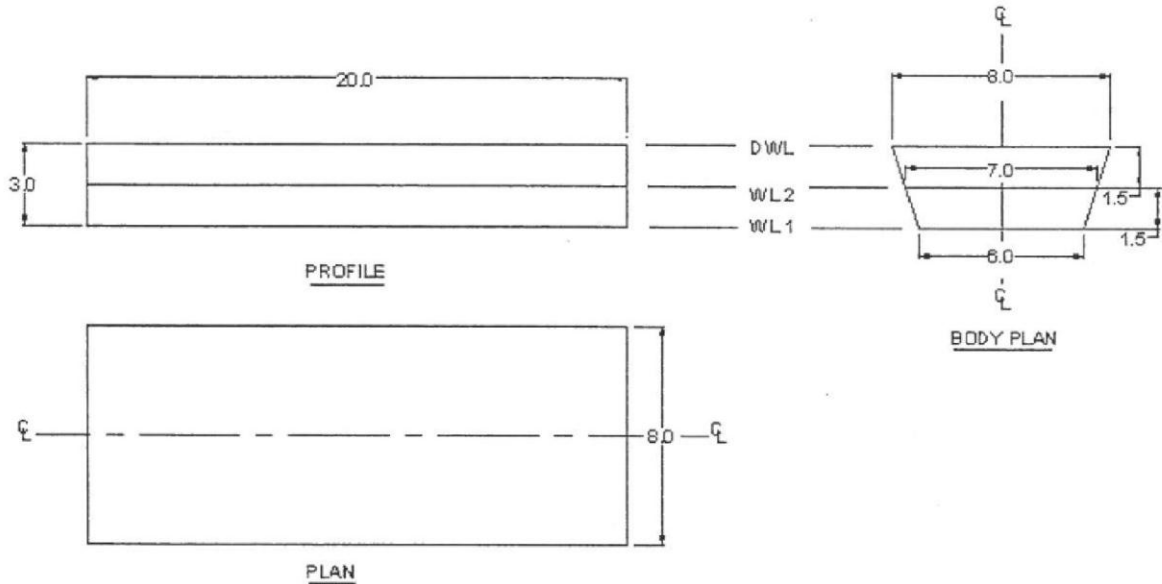

Figure 2 Lines Plan of 20m Barge
- (b) A barge with same transverse sections throughout its length has 20 meters in length, beam of 8 meters and design water line (DWL) of 3 meters as shown in Figure 2.